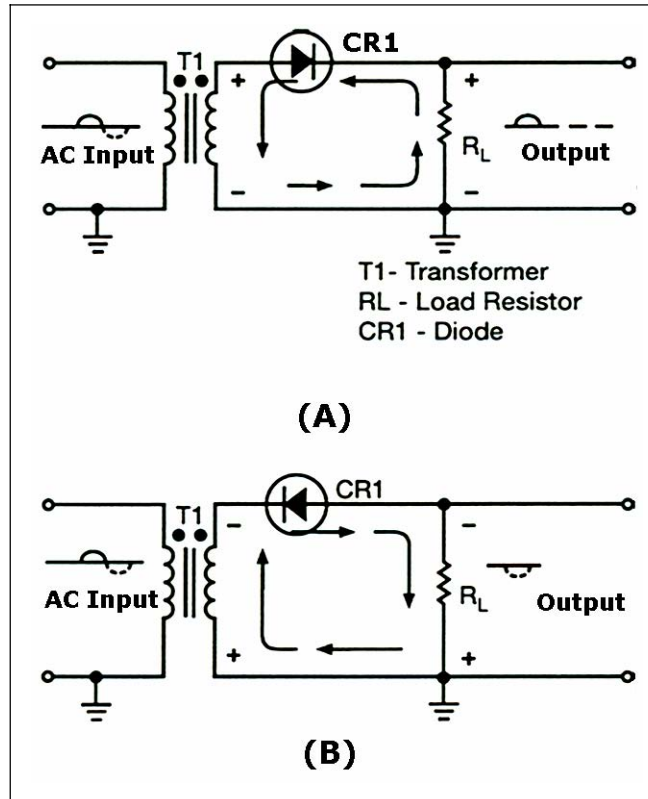

Figure 1-21. Simple Half-Wave Rectifier
1-79. One of the most important uses of a diode is rectification. The normal PN junction diode is well suited for this purpose as it conducts very heavily when forward biased (low-resistance direction) and only slightly when reverse biased (high-resistance direction). If we place this diode in series with a source of AC power, then the diode will be forward and reverse biased every cycle. Since, in this situation, current flows more easily in one direction than the other, rectification is accomplished. The simplest rectifier circuit is a half-wave rectifier (see Figure 1-21) that consists of a diode, an AC power source, and a load resistor.
1-80. The transformer (T1) in Figure 1-21 provides the AC input to the circuit; the diode (CR1) provides the rectification; and the load resistor (R_L) serves the following two purposes:
1-82. During the positive half-cycle of the input signal (solid line) (see Figure 1-21, view (A)), the top of the transformer is positive with respect to ground. The dots on the transformer indicate points of the same polarity. With this condition, the diode is forward biased, the depletion region is narrow, the resistance of the diode is low, and current flows through the circuit in the direction of the solid lines. When this current flows through the load resistor, it develops a negative to positive voltage drop across it that appears as a positive voltage at the output terminal.
current flows through the diode. As indicated by the broken lines (see Figure 1-21), there is no output developed across the load resistor during the negative alternation of the input signal. Although only one cycle of input is shown, you should realize that the action described above continually repeats itself, as long as there is an input. Therefore, since only the positive half-cycles appear at the output, then this circuit converted the AC input into a positive pulsating DC voltage. The frequency of the output voltage is equal to the frequency of the applied AC signal since there is one pulse out for each cycle of the AC input. For example, if the AC input is 60 Hz then the input frequency would be 60 cycles per second and the output frequency would be 60 pulses per second.
1-84. However, if the diode were reversed (see Figure 1-21, view (B)), a negative output voltage would be obtained. This is because the current would be flowing from the top of R_L toward the bottom, making the output at the top of R_L negative in respect to the bottom or ground. Since current flows in this circuit only during half of the input cycle, it is called a half-wave rectifier.